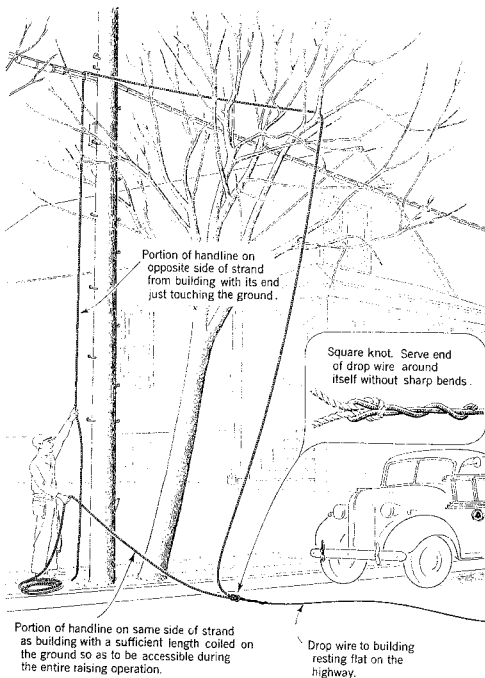

Fig. 5 — Drop Wire Tied to Handline
(1) When placing the handline over the strand, guard arm, drive hook, or crossarm, locate it among the branches of the tree as illustrated in Fig. 5, in order that the drop wire may be raised to the